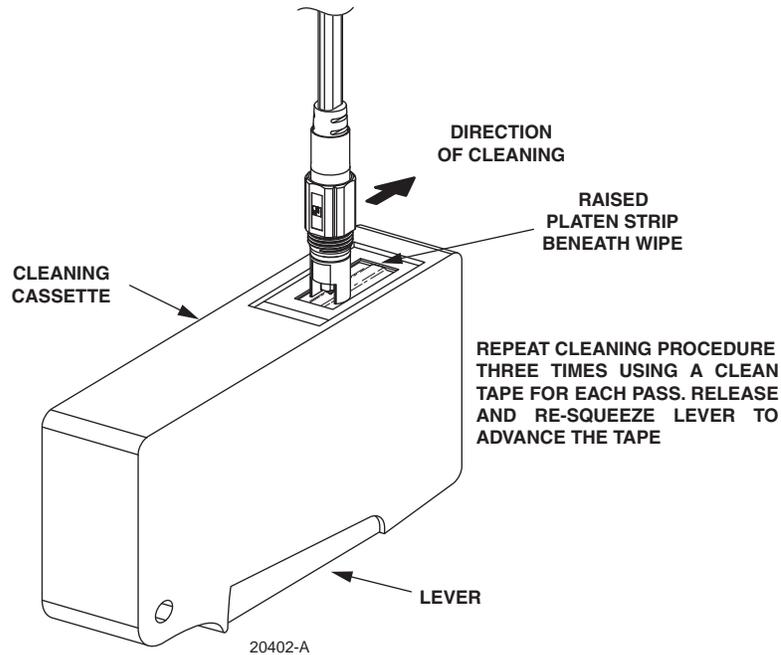

Figure 19. Cleaning Drop Cable Connector
5. Hold the end-face of the drop cable connector perpendicular to the cleaning tape and with the **high side** of the connector pointing in the direction of cleaning as shown in Figure 19.